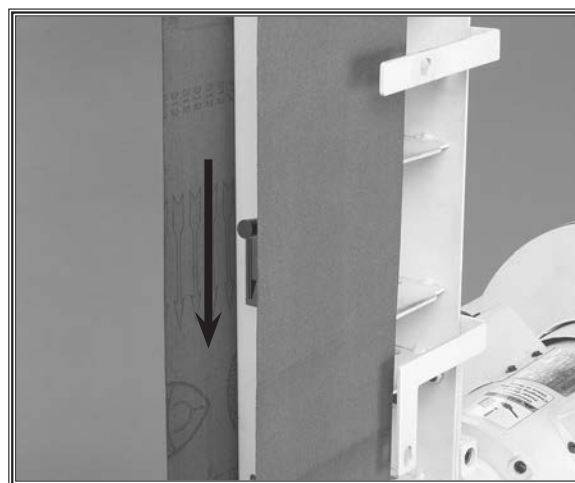

Figure 20. Installing a new sanding belt.
6. Install a new belt with the arrows in the proper direction as shown in **Figure 20**.